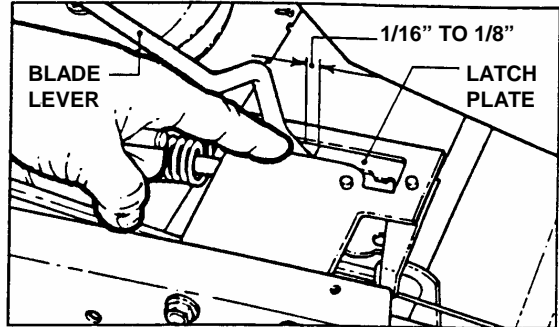

FIGURE 4.5
2. With the blade engagement lever disengaged, hold the blade pedals down and measure the distance between the front of the blade lever and the rear of the latch plate. The dimension should be 1/16" to 1/8" clearance between lever and plate. See Figure 4.5. If the dimension is incorrect go to step 3.